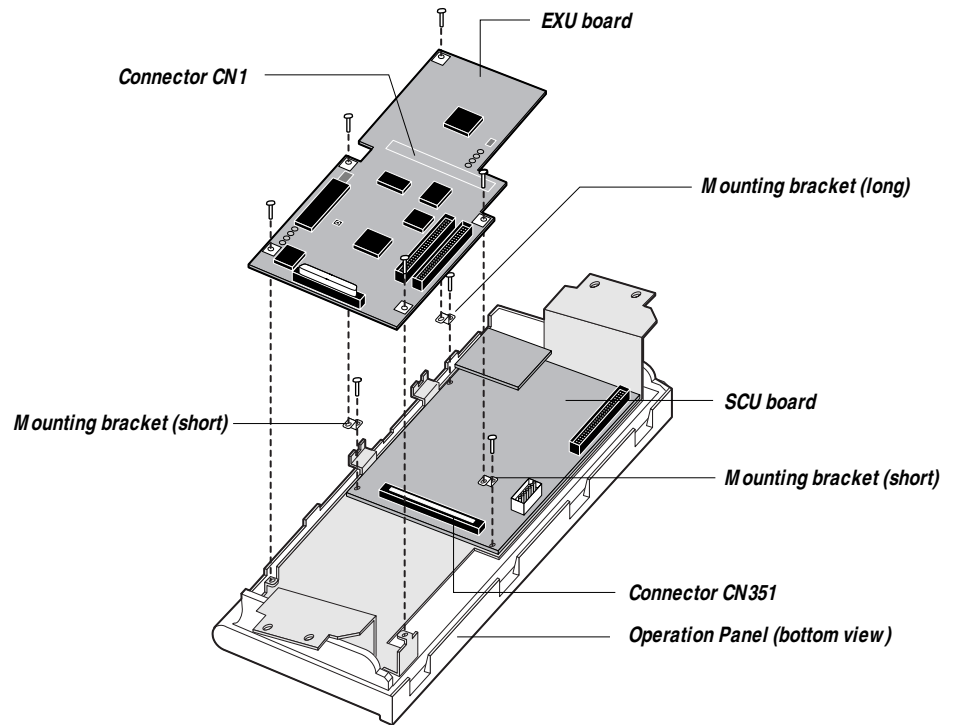

Figure 2-11 Installing the EXU and brackets
3. ***Place the long mounting bracket as indicated in Figure 2-11 on page 2-13.***
This kit contains two short brackets and one long bracket that must be installed as indicated in Figure 2-11.
7. ***Insert the five screws (M3x5 Phillips pan-head) into the five mounting holes on the EXU board (see Figure 2-11 on page 2-13).***